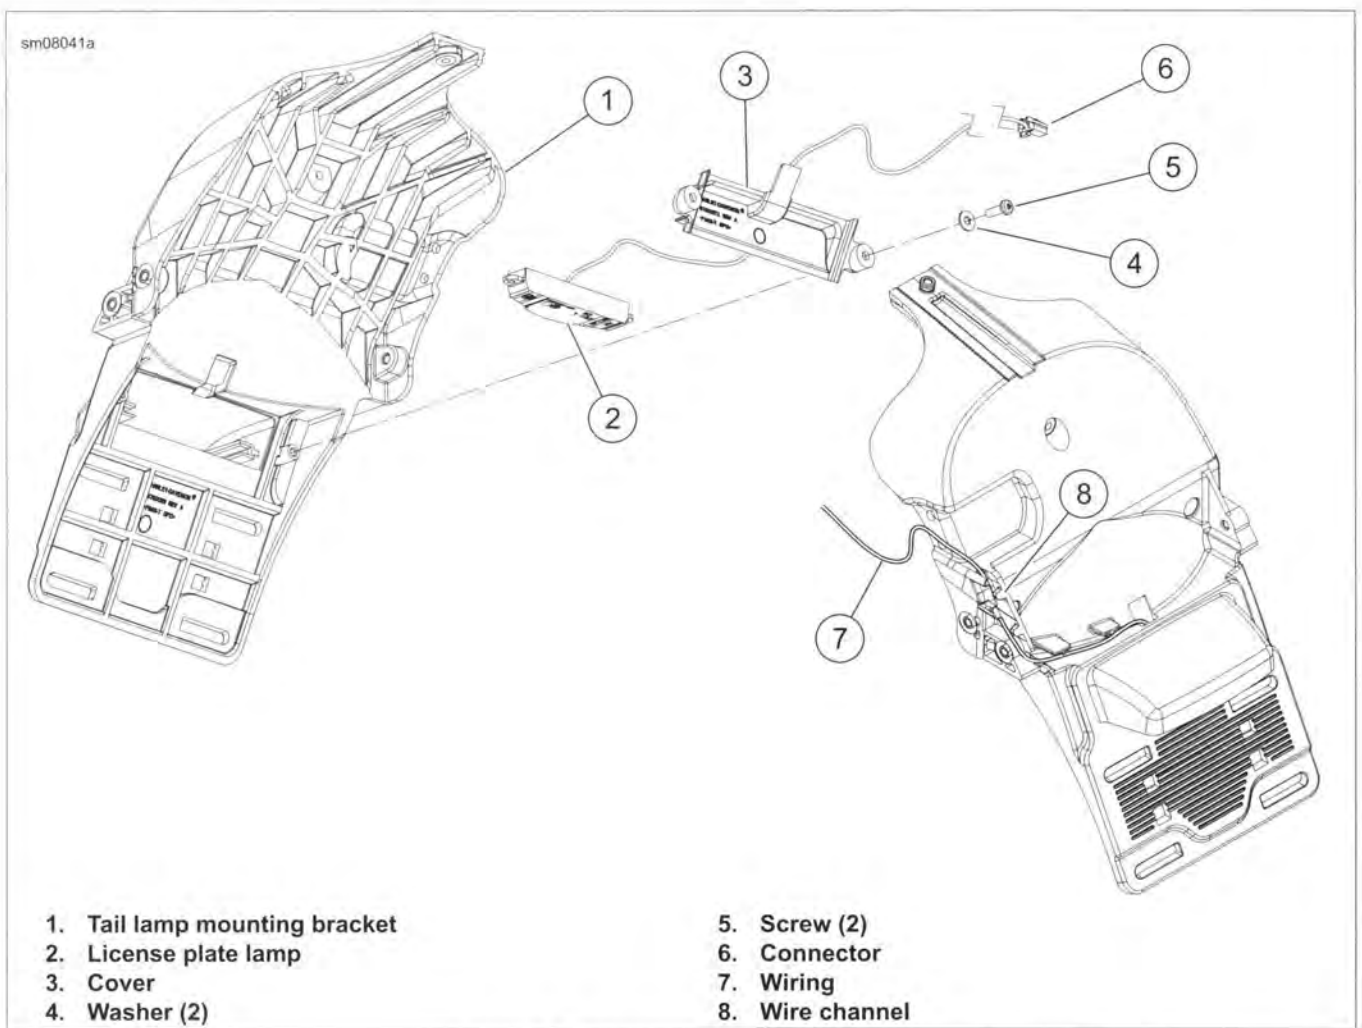

Figure 7-43. License Plate Lamp: FXDF
3. Figure 7-43. Remove screws (5) and washers (4) securing cover (3) and license plate lamp (2) to tail lamp mounting bracket (1).
4. Remove wiring (7) from wire channel (8) in tail lamp bracket.
5. Remove wire terminals from connector (6).